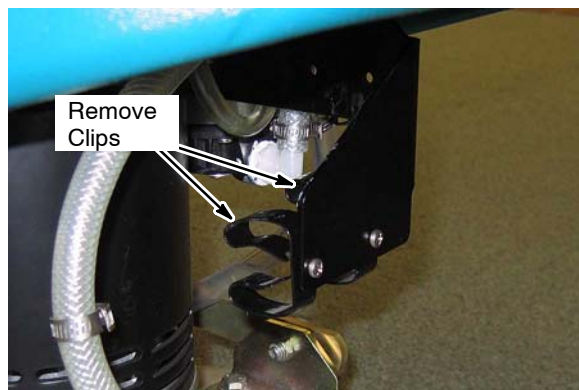

Fig. 7
3. Remove the two clips from the injector mounting bracket (Figure 7).